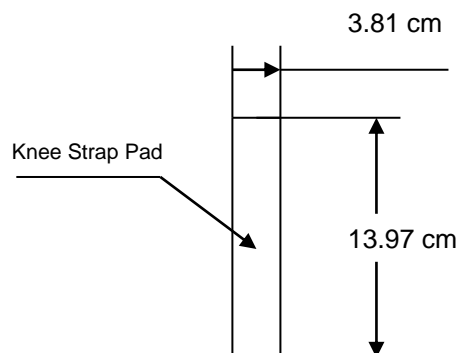

Figure 4
5. The total width measurement of the entire inner knee padding (pad risers), including the outer knee strap pad, must not exceed **6.35 cm** in thickness. The inner kneepads are not to exceed **17.78 cm** in length, **13.97 cm** in width. The length of **17.78 cm** is measured from where the inner padding attaches to the leg pad and back to the end of the inner padding as shown on Figures 4 and 5.